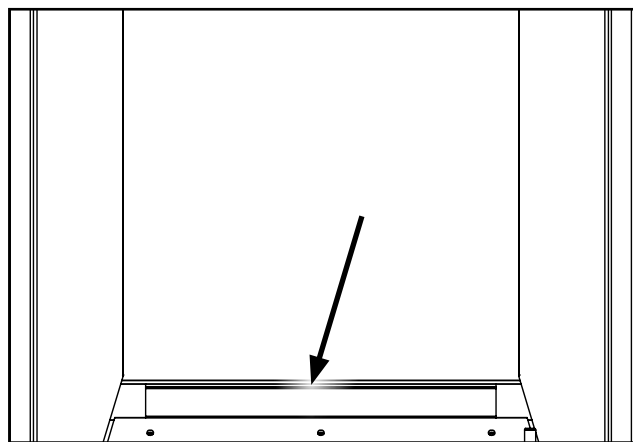

Figure 50. Rear Panel Ledge.
6. Install the rear ceramic panel first by sitting it on the ledge at the rear of the firebox (see figure 50), then follow with the left and right panels